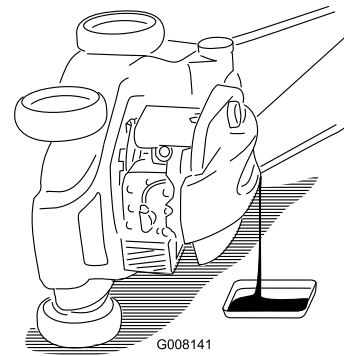

Figure 32
5. Tip the mower onto its **left** side (with the air filter up) to allow the used oil to drain out through the oil fill tube (Figure 32).